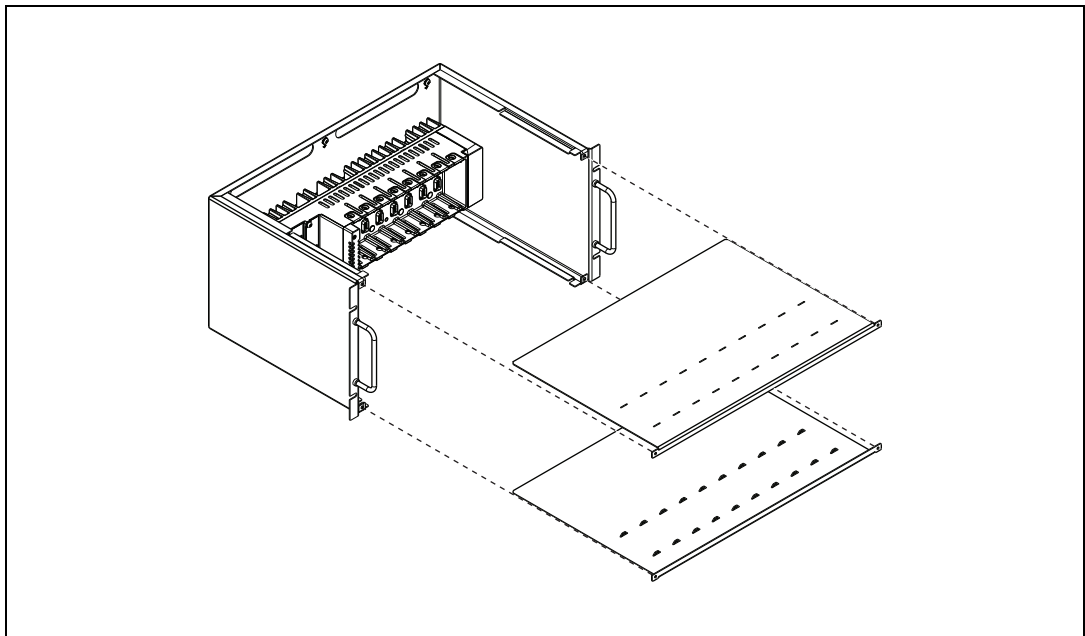

Figure 4. Installing the Top and Bottom Covers
- Install the top and bottom covers as shown in Figure 4.